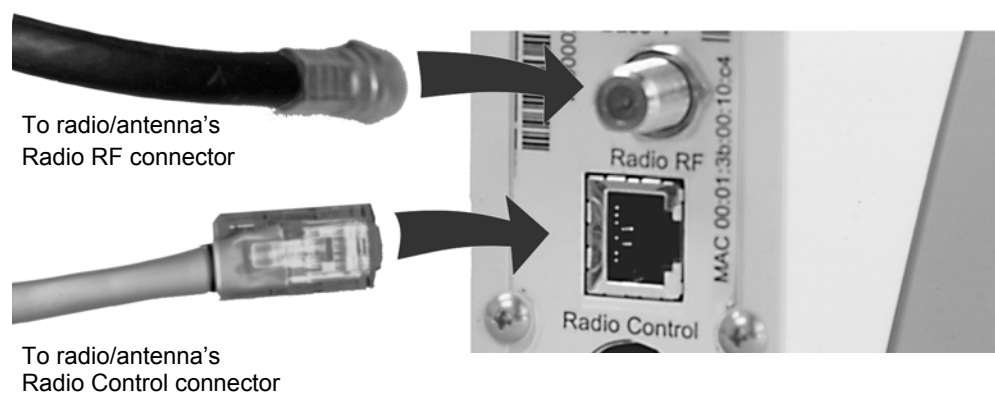

Figure 5-2 Indoor Unit Connections from Outdoor Unit
2. Attach the cable to the **RADIO RF** connector on the Indoor Unit as illustrated in *Figure 5-2*.
4. Attach the cable to the **RADIO Control** connector on the Indoor Unit as shown in *Figure 5-2*.